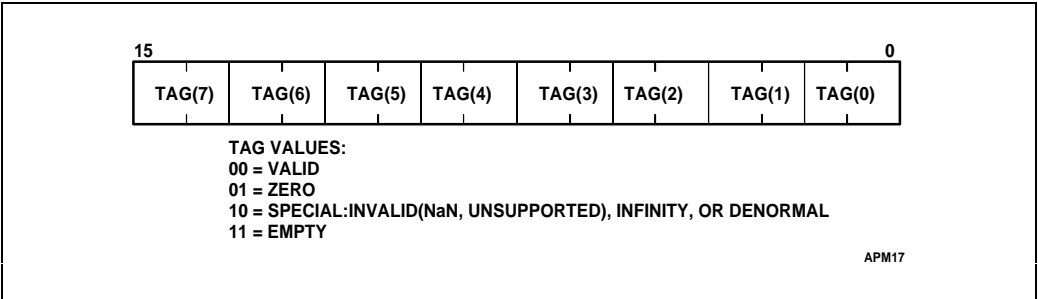

Figure 6-4. Tag Word Format
The tag word (TW) indicates the contents of each register in the register stack, as shown in Figure 6-4. The TW is used by the FPU itself to distinguish between empty and nonempty register locations. Programmers or exception handlers may use this tag information to check the contents of a numeric register without performing complex decoding of the actual data in the register. The tag values from the TW correspond to physical registers 0–7. Programmers must use the current top-of-stack (TOP) pointer stored in the FPU status word to associate these tag values with the relative stack registers ST(0) through ST(7).